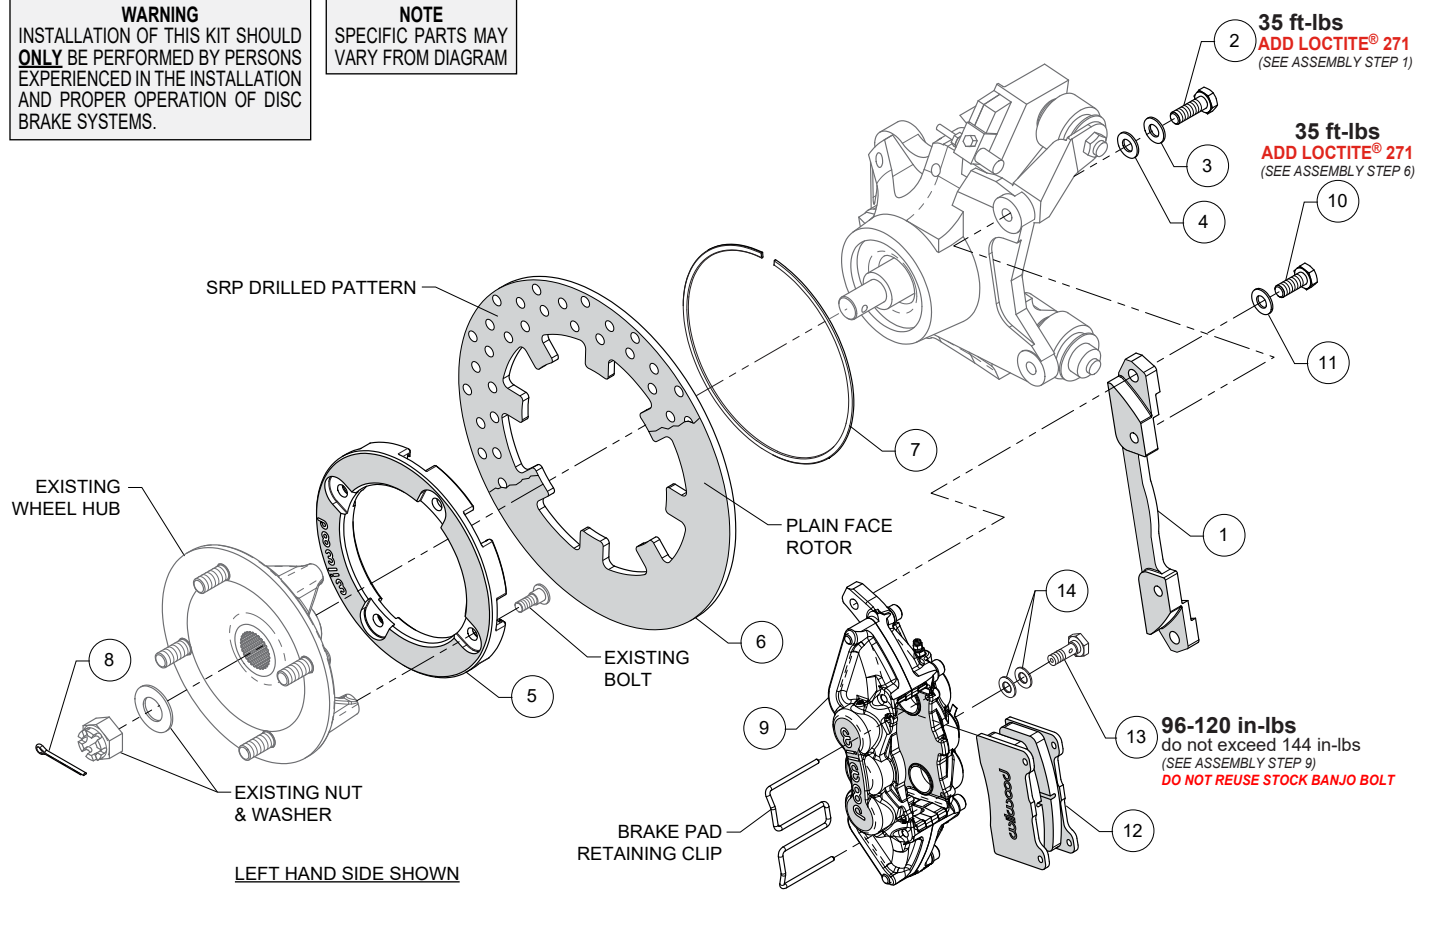

Figure 1. Typical Installation Configuration
NOTE: Numbers in parenthesis refer to the parts list and Figure 1 on the preceding pages.
STEP 1 Orient the caliper mounting bracket (1), as shown in Figure 1 and Photo 1. Install using bolts (2), washers (3), and shims (4) as shown in Figure 1 and Photo 1. Apply red *Loctite*® 271 to the bolt threads and torque to value shown in Figure 1.
STEP 2 Place the existing OEM wheel hub face down and position the rotor adapter (5) onto the wheel hub as shown in Photo 2. **NOTE:** The existing wheel hub must be free of dirt and debris or excessive rotor run out may result. Attach rotor adapter to wheel hub using existing OEM bolts, Photo 3. Torque to OEM specifications.
STEP 3 Position the rotor (6) onto the rotor adapter (5), making sure the rotor lugs fit into the recesses of the rotor adapter, as shown in Photo 4.
STEP 4 Secure rotor to the rotor adapter using the snap ring (7) by installing the snap ring into the groove of the rotor adapter, as shown in Photo 5. Carefully inspect snap ring to ensure complete engagement in the groove.
STEP 5 Grease the splines and snout of the existing wheel hub and slide the wheel hub/rotor assembly onto the axle and attach using the existing OEM washer and castle nut. Tighten to OEM specifications and secure using cotter pin (8), Photo 6.
STEP 6 Secure the caliper (9) to the mounting bracket (1) using bolts (10) and washers (11), as shown in Figure 1 and Photo 7. Apply red *Loctite*® 271 to the threads, and torque to value shown in Figure 1.
STEP 7 Remove the pad retainer clip from the caliper (9). Insert the brake pads into the caliper with the friction material facing the rotor, as shown in Photo 8. Reinstall the pad retainer clip, Photo 9.
STEP 9 Attach brake line to caliper. Connect existing OEM flexline to caliper using banjo bolt (13) and crush washers (14). Do not use lubricant or thread sealant on banjo bolt (13). Torque to minimum value shown in Figure 1. Check for leakage, increasing torque only to stop leakage without exceeding maximum specification. Replace crush washers and banjo bolt whenever reassembly is required. **Ensure hoses are routed to prevent contact with moving suspension, brake or wheel components.**